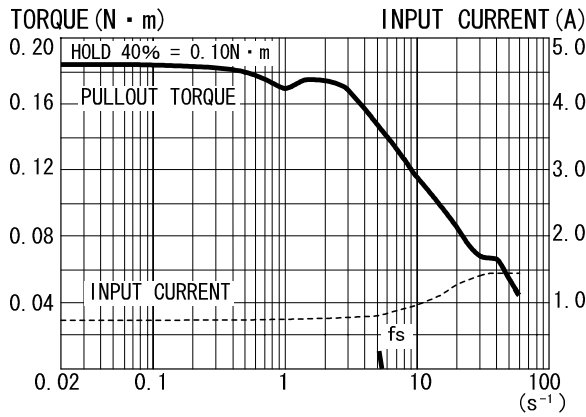
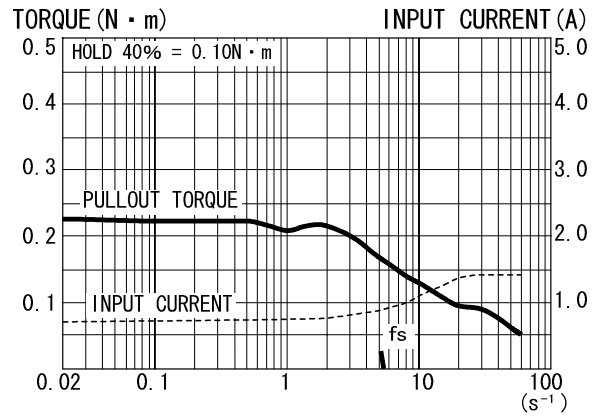

Fig. 2
Fig. 3
| Sanyo Denki Co., Ltd. | 0.72 | 0.75 | OFF (IH) | ON (5L) | Fig. 1 Fig. 2 Fig. 3 |